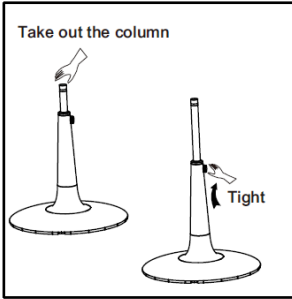

fig. 1
2. Attach the telescopic tube (column) to the base. Secure by tightening the nut on the base. Use the screw/nut provided to assemble the column parts to the base. Adjust the column to the height and screw / secure with the fixed base screw (fig. 1,2).